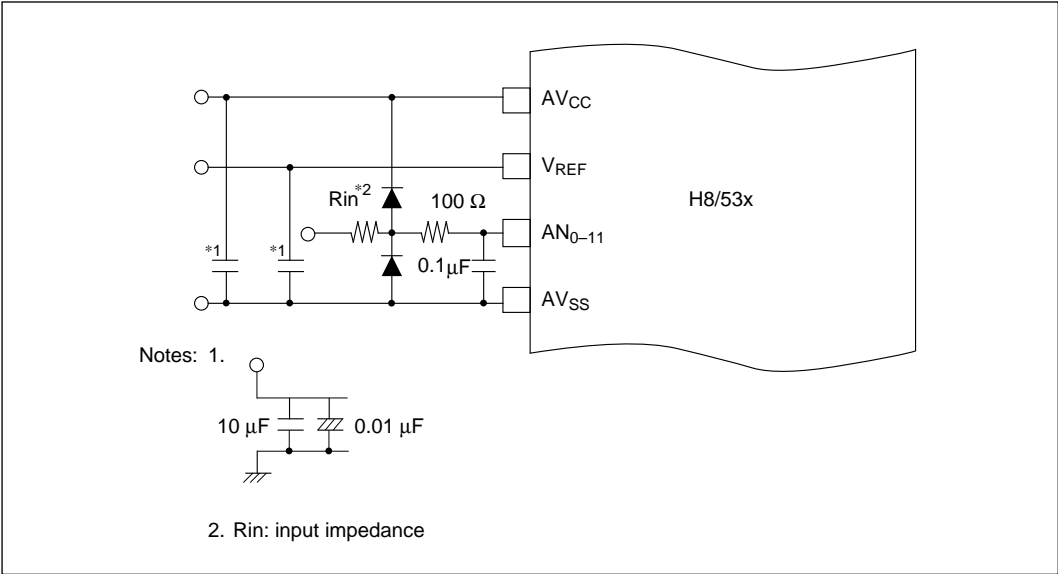

Figure 15-9 Example of Analog Input Protection Circuit
(5) Note on Noise: To prevent damage from surges and other abnormal voltages at the analog input pins (AN_0 to AN_{11}) and analog reference voltage pin (V_{REF}), connect a protection circuit like the one in figure 15-9 between AV_{CC} and AV_{SS} . The bypass capacitors connected to AV_{CC} and V_{REF} and the filter capacitors connected to AN_0 to AN_{11} must be connected to AV_{SS} . If filter capacitors like those in figure 15-9 are connected, the voltage values input to the analog input pins (AN_0 to AN_{11}) will be smoothed, which may give rise to error. The circuit constants should therefore be selected carefully.
(6) To Maintain Accurate Conversion: Connect the V_{REF} and AV_{SS} pins to a stable power supply or ground. Inside the A/D converter, V_{REF} and AV_{SS} become inputs to the circuit that generates the comparison voltages during A/D conversion. External disturbances on the V_{REF} and AV_{SS} lines will have an adverse effect on accuracy.